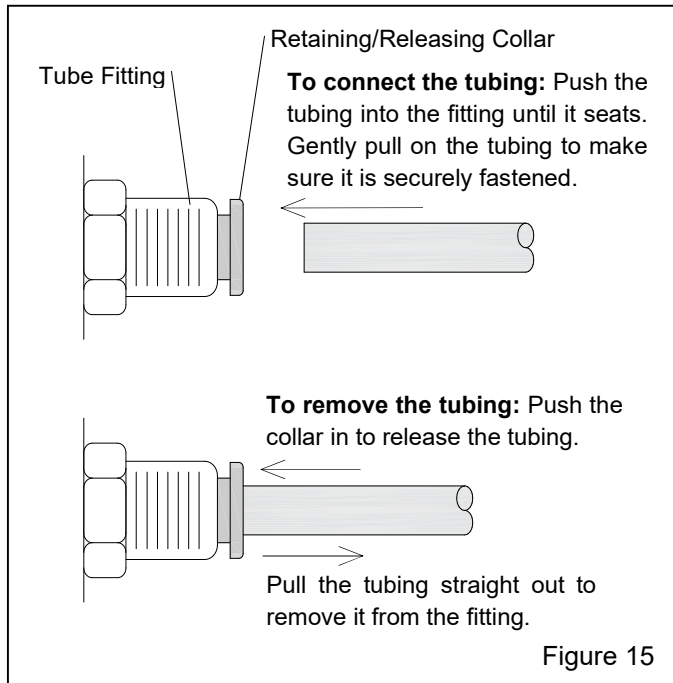

Figure 15
4.10 Using Tube-Lock Fittings – Figure 15